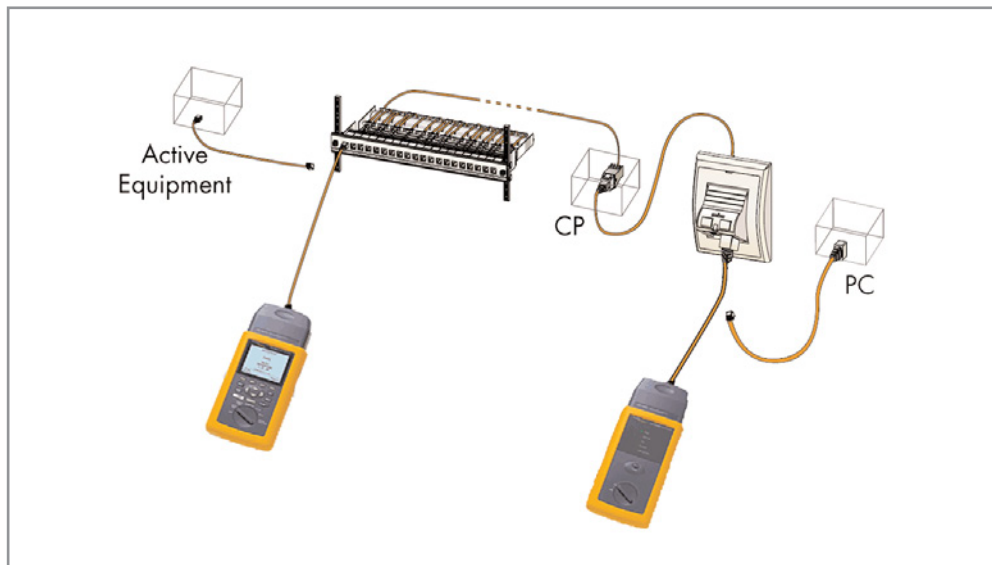

Figure 2.3: Testing at 3 connector Interconnect - CP - TO model
Testing in a 3 connector test model as shown in Figure 2.3 is mandatory to acquire a Class F Certified Systems Warranty on the complete installation (= 3 connector installation) under the condition that the correct test heads are in use.
If LANmark-7 or 7A patch cords are used to cross connect the patch panels, testing as a 3-connector test model, described in 2.4.3 and testing the separate cross connect lead in channel will do to acquire a Nexans Certified Systems Warranty on the complete installation (= 4 connector installation). The installation includes a Consolidation point lead existing of a 'single ended' LANmark-7 or 7A patch cord which must be terminated using a Nexans N420.731 (7) / N420.736 (7A) Snap-in connector connecting the Consolidation Point (CP) to the Terminal Outlet (TO). Testing in a 3 connector test model as shown in Figure 2.3 is mandatory to acquire a Class F Certified Systems Warranty on the complete installation (= 4 connector installation) under the condition that the correct test heads and test limits are used.